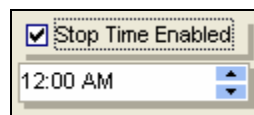

Figure 17.2.23
4. Check the box to enable. Highlight the **STOP TIME** and use the **UP** and **DOWN** arrows to adjust the time (Figure 17.2.23).